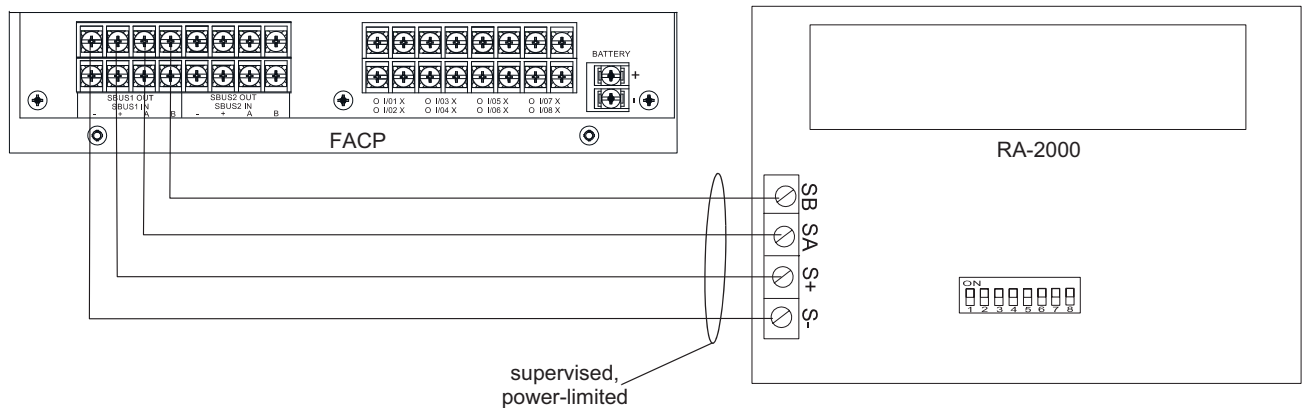

Figure 4.29 RA-2000 Connection to the Panel
3. Wire the annunciator board to the main control panel as shown in Figure 4.29.
7. Run wires to the control panel. Refer to Figure 4.29.